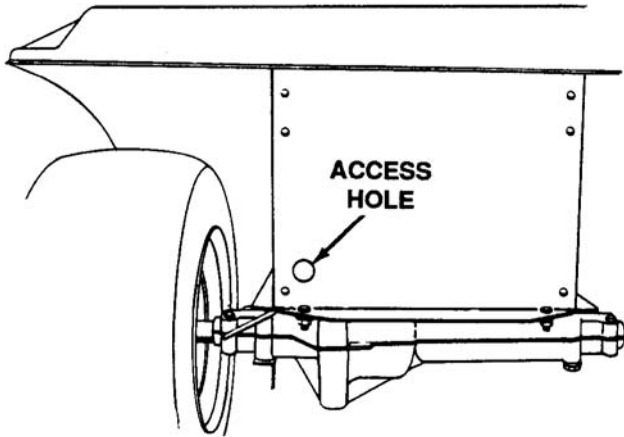

Figure 4-17. Location of Access Hole
- c. Disconnect the large spring from the transmission support bracket using a spring puller or other suitable tool. An access hole is provided in the rear of the frame for this purpose. See Figure 4-17.